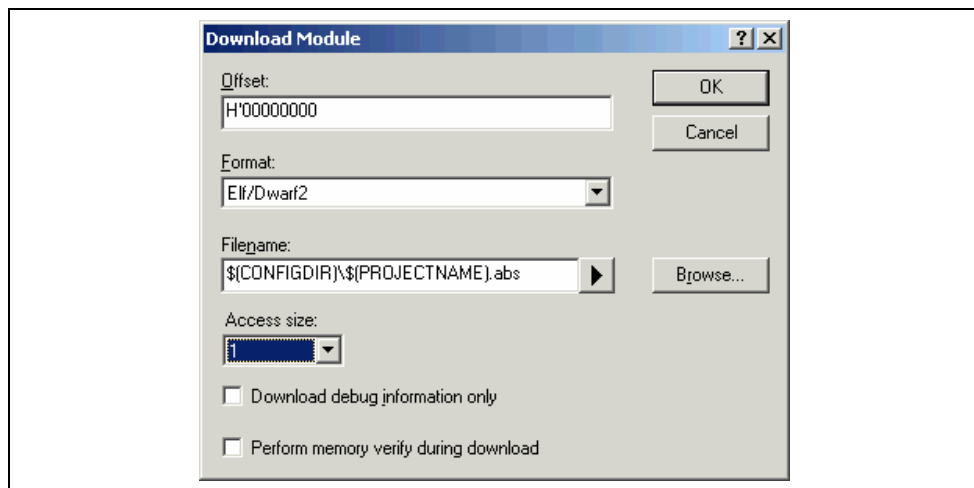

Figure 3.15 Download Module Dialog Box
3. Click the [Add] button. The dialog box displayed in figure 3.15 is displayed.